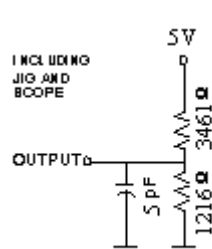

FIGURE 1B
6. Transition is measured $\pm 500mV$ from steady state with $C_L = 5pF$ as shown in Figure 1B. The parameter is guaranteed but not 100% tested.
- Transition is measured $\pm 500\text{mV}$ from steady state with $C_L = 5\text{pF}$ as shown in Figure 1B. The parameter is guaranteed but not 100% tested.